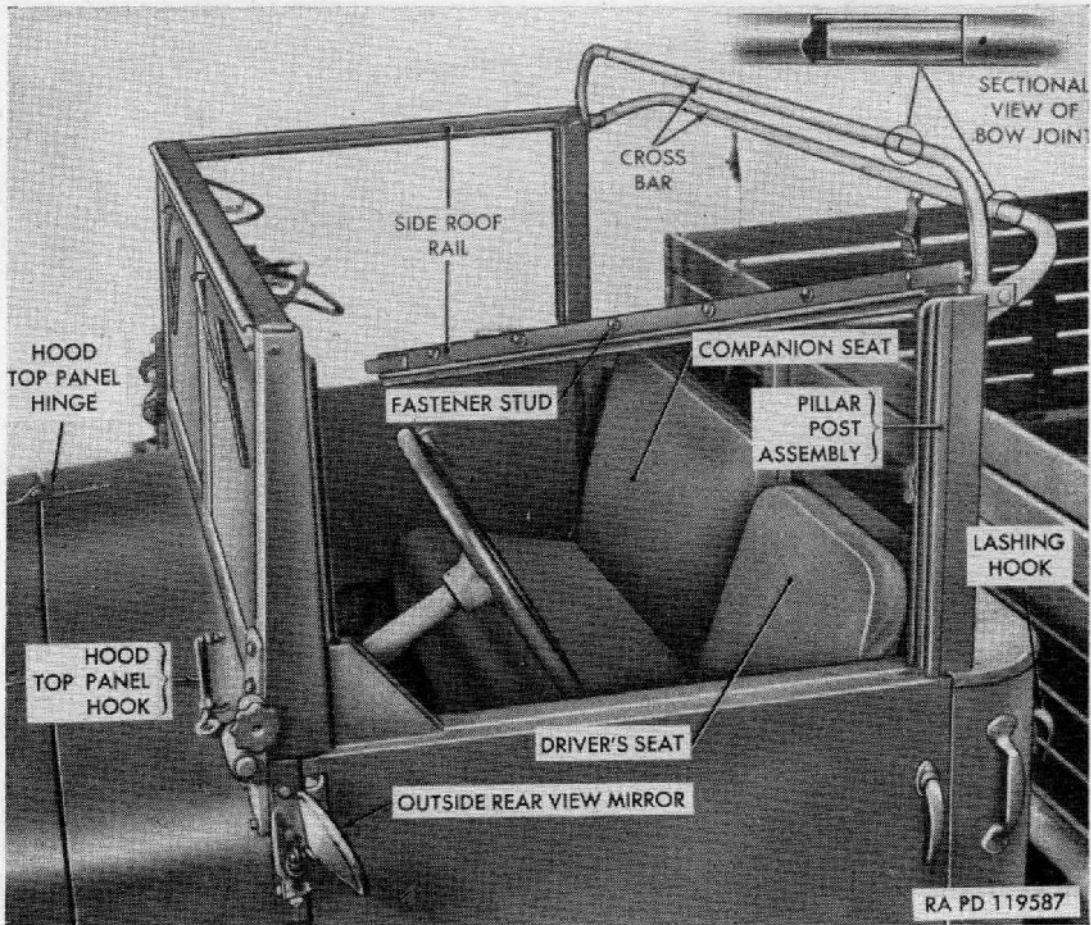
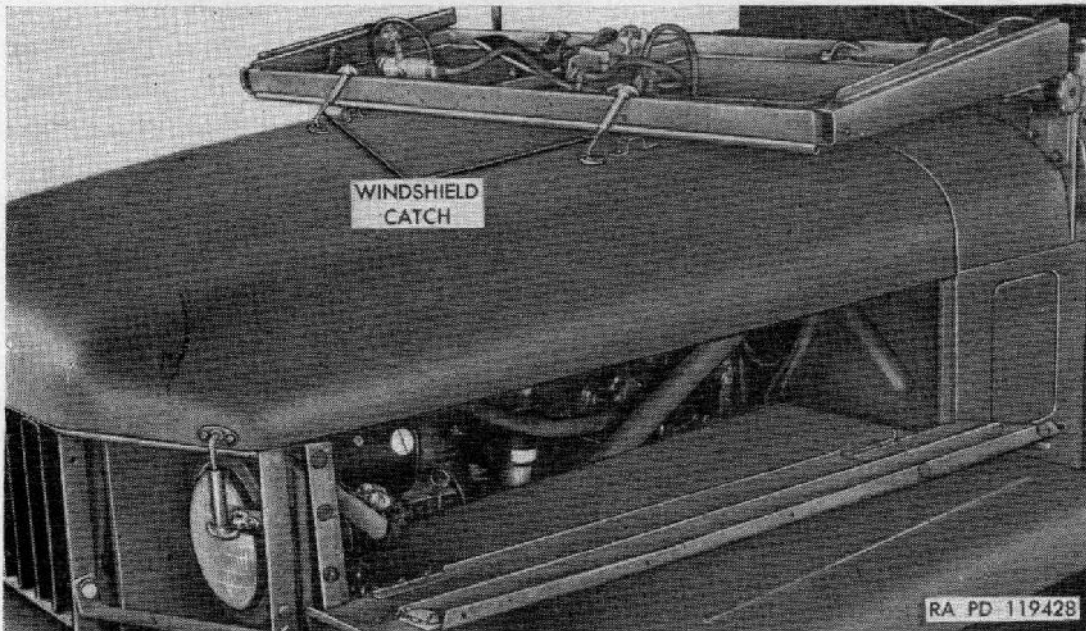
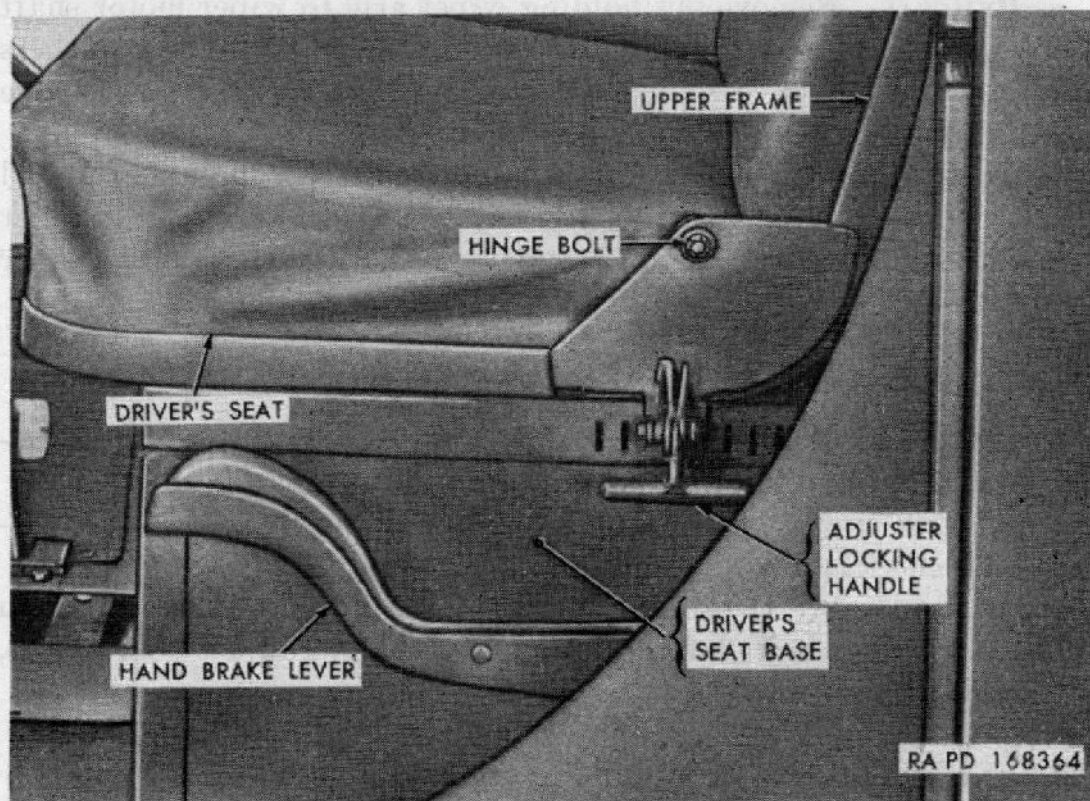

Figure 153. Cab top frame.
Figure 154. Windshield folded on hood.
Figure 155. Driver's seat adjustment.
a. DESCRIPTION. The one-piece, reinforced, hood top panel is attached to cowl with two hood top panel hinges (fig. 153). Hood is fastened in closed position at front end by two hold-down catches and a safety catch. The hood may be raised against windshield frame and locked in place by means of the left windshield catch (fig. 154) and hood-top-panel hook (fig. 153).
b. REMOVAL. Release lashing rope from side handles and from hooks at rear of cab. Release paulin from fastener studs in side-roof rails and slip paulin from channels in pillar posts. Throw paulin over windshield and pull paulin edge from channel in windshield (fig. 152). Disengage side-roof rails from windshield, and fold in and down to pillar posts. Lift out posts and bow assemblies. Remove cross bars from bows (fig. 153).
a. **DESCRIPTION.** The windshield is made with two independent sections assembled in a metal frame. Sections are hinged at top and can be swung out at bottom as desired. Friction locks hold sections in adjusted position. A locking handle at bottom of each section locks it closed. The outer frame is pivoted at bottom and can be folded forward and locked on hood (fig. 154).
a. **DRIVER'S SEAT (fig. 153).** The driver's seat is mounted on a fully enclosed base which is anchored to cab floor. Seat and back cushions are supported in a frame assembly which is mounted on base. Seat is adjustable forward and backward, and is held in position by a spring latch adjuster which engages slots in left side of base (fig. 155). Seat is pivoted and can be raised to give access to storage compartment in base.
b. **COMPANION SEAT (fig. 153).** Companion seat is supported on a welded frame, the right-side of which is anchored to cab floor; left side of frame is attached to upper portion of driver's-seat base. Seat cushion can be tilted up against back cushion, and back can be laid forward on seat.